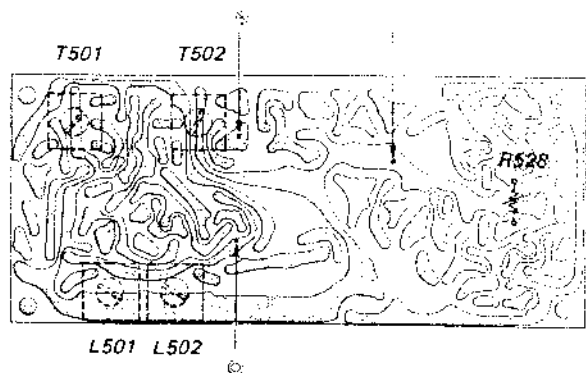

Fig. 7 Connection and adjusting parts locations
- 3-1. Make the test setup as shown in Fig. 7 and 9.